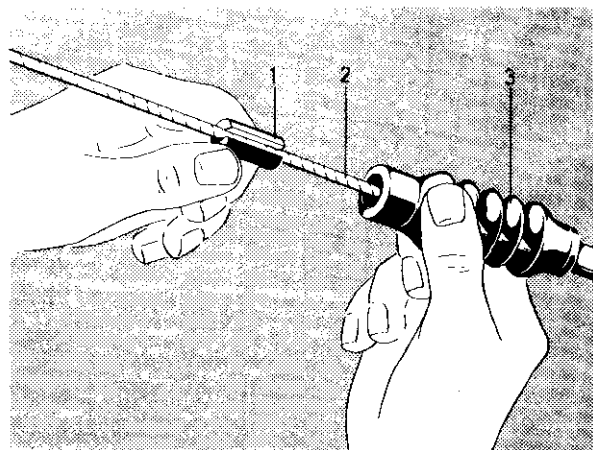

Fig. 32. Fitting the rubber cover
When replacing, remove the rear pull rod from the countershaft and unhook the cable from the clevis. Cut off the old casing and place on the new one. Hook the cable onto the clevis and fit the pull rod back in position. Fit the slotted sealing plug (1, Fig. 32) onto the cable (2) and press it into the rubber casing (3).